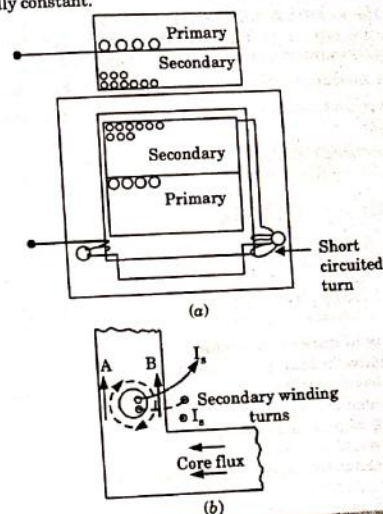

Fig. 3.13.1. Voltmeter connected across load.
3. The auxiliary turns are connected to magnetize in the same direction around the core as the main secondary winding and thus their effect opposes the flux set up by the primary winding. The auxiliary turns tend to set up a circulating flux around the hole as indicated by the dotted line in Fig. 3.13.1(b). The two fluxes are additive in the section A of the core and subtractive in section B.